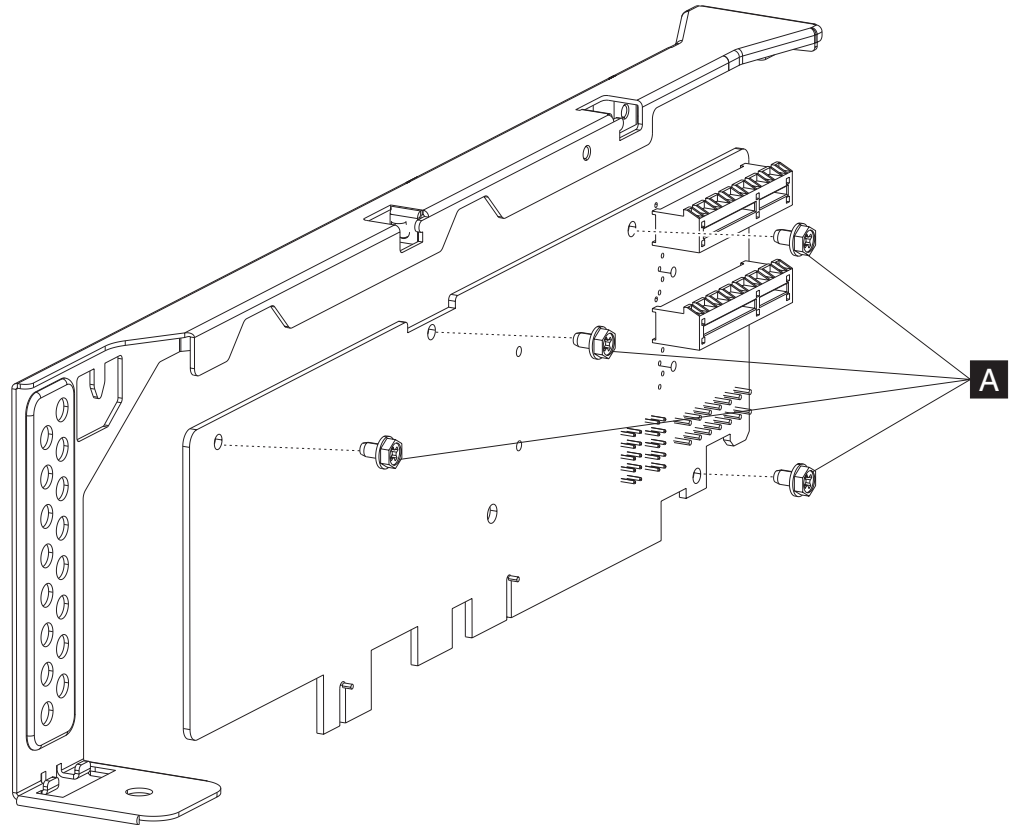

Figure 35. Removing the riser screws
3. Remove the four screws (**A** in Figure 35) holding the riser card to the spline.